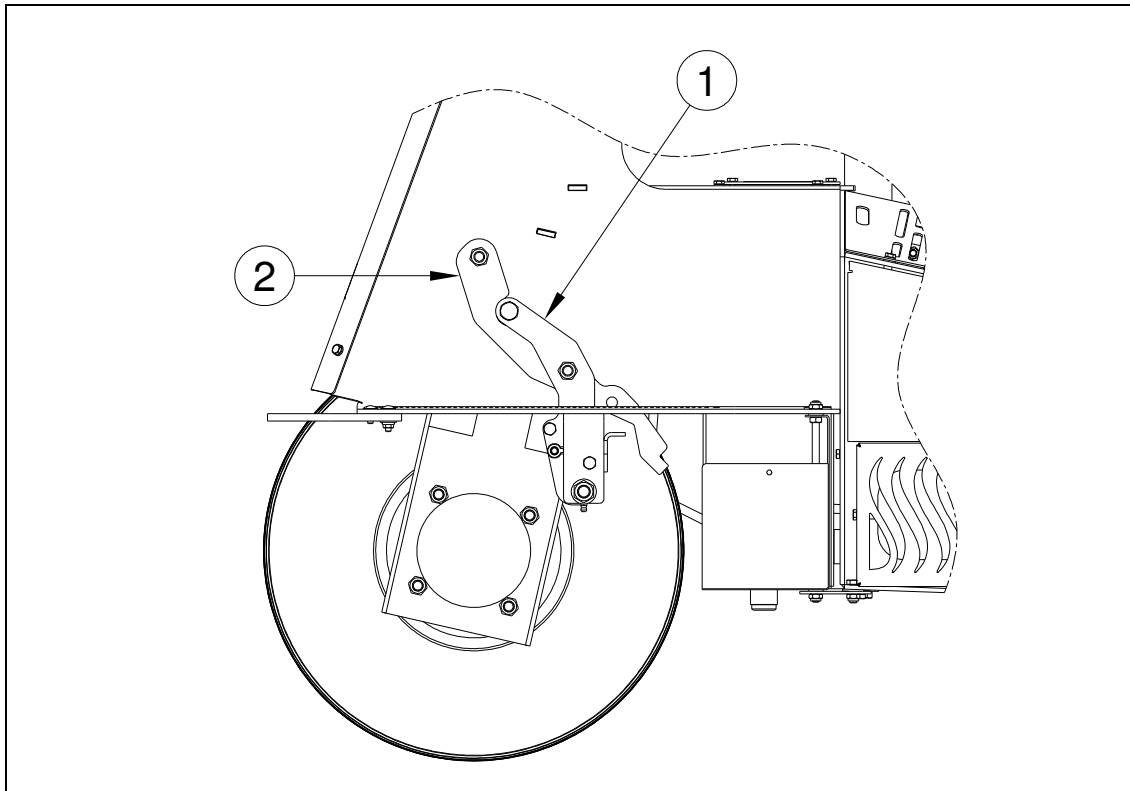

Fig. 18
The Verti-Drain® has two brake pedals that can be found on the left side of the machine (see fig. 18). The shorter of the two is the brake pedal (1). The long one that is also nearest to the pedal that sits on the frame is the parking brake (2) and is only used to lock the machine when it is standing still. The brake design also operates in such a way that when the brake pedal (1) has been pressed, the parking brake (2) will also have been pressed.